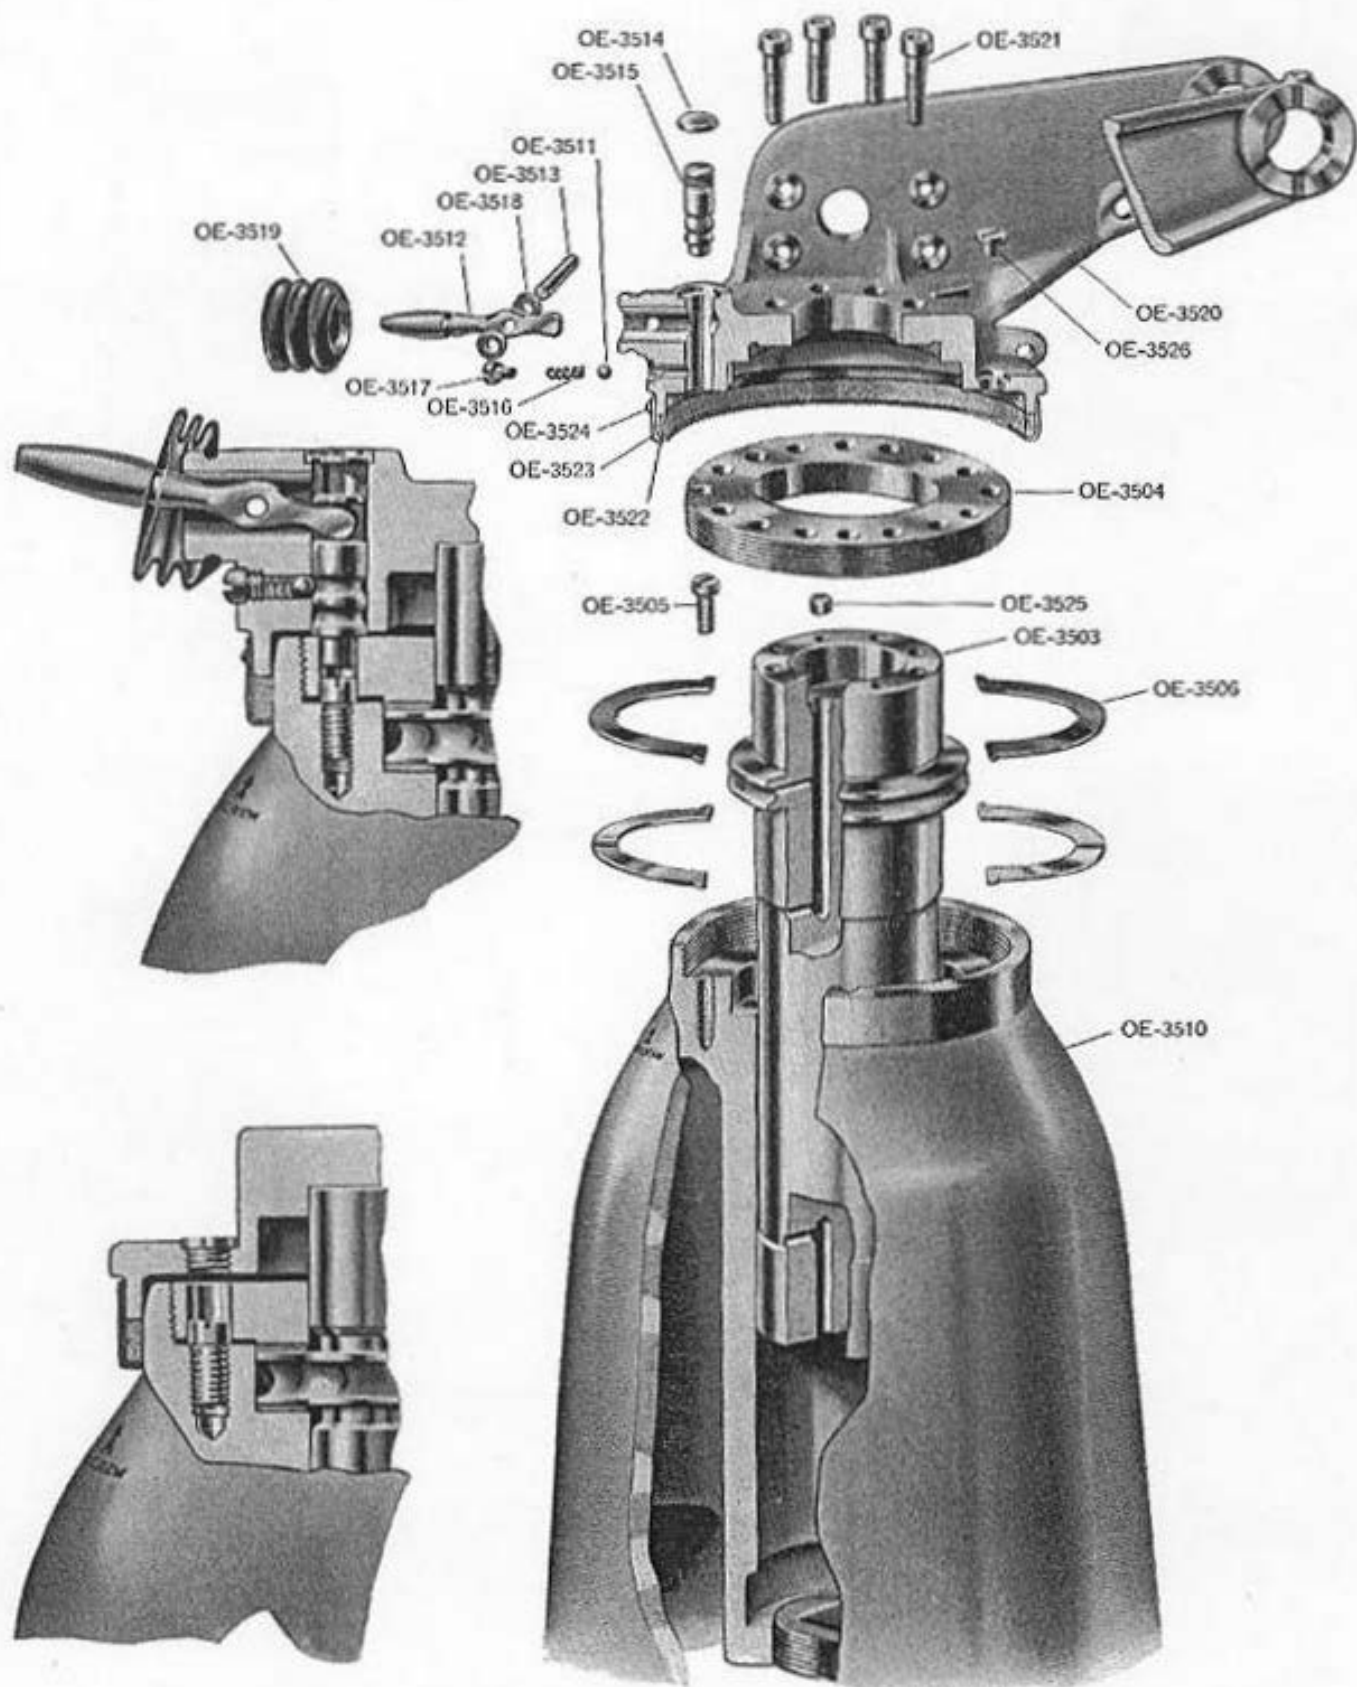

Figure 21—Exploded cut-away view of Mark 5 Mod. 3 Mount.
Figure 21 is an exploded view of the gun mount parts.
The pedestal and base on this type mount are integral. It consists of a hollow casting bored out in the center, near the top to serve as a bearing for the pivot on which the gun carriage rotates. See Figure 21. The cylinder in which the pivot operates is filled with extra light mineral oil, Navy Symbol 1042, 2110 or 2075 to permit easy training of the gun under all temperature conditions.
The carriage used on Mark 5 mounts serves a purpose similar to that of the trunnion bracket and pivot Mark 4 on Mark 4 mounts, except that it does not operate on roller bearings. See Page 21. It is bolted to the top of pivot (OE-3503), which operates on two babbitt faced steel thrust bearings. See Figure 21. The length of the two arms extending rearward on the carriage are the same on Mark 4 and Mark 5 carriages.
2. Remove lock screw cover plug (OE-3526) from the carriage. Disengage lock plunger (OE-3515) from retainer (OE-3504) by pushing down lock lever (OE-3512). Rotate carriage (OE-3520) until the head of retainer screw (OE-3505) is visible through the plug hole in the carriage (location of screw indicated by arrow on pedestal just below top edge). Remove the lock screw. See Figure 21.
Install two pivot bearing halves (OE-3506)—lower bearing—in bottom of pedestal pivot shoulder. See Figure 21. Assemble this bearing with the babbitted side toward TOP of pedestal, engaging the lugs on the bearings in the notches in the pedestal. Lubricate the bearing with the same oil specified above.